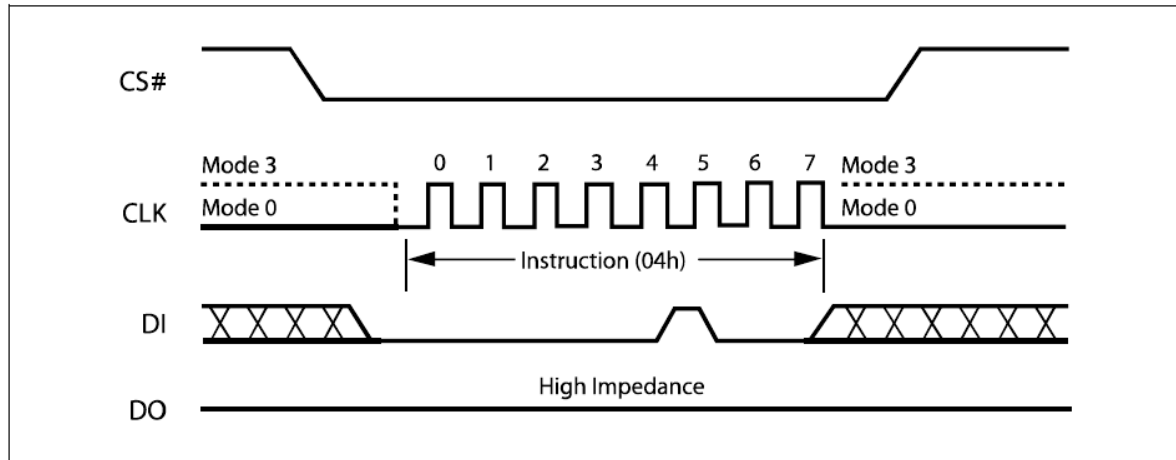

Figure 10. Write Disable Instruction Sequence Diagram
The Write Disable instruction (Figure 10) resets the Write Enable Latch (WEL) bit in the Status Register to a 0. The Write Disable instruction is entered by driving Chip Select (CS#) low, shifting the instruction code "04h" into the DI pin and then driving Chip Select (CS#) high. Note that the WEL bit is automatically reset after Power-up and upon completion of the Write Status Register, Page Program, Sector Erase, Half Block Erase (HBE), Block Erase (BE) and Chip Erase instructions.